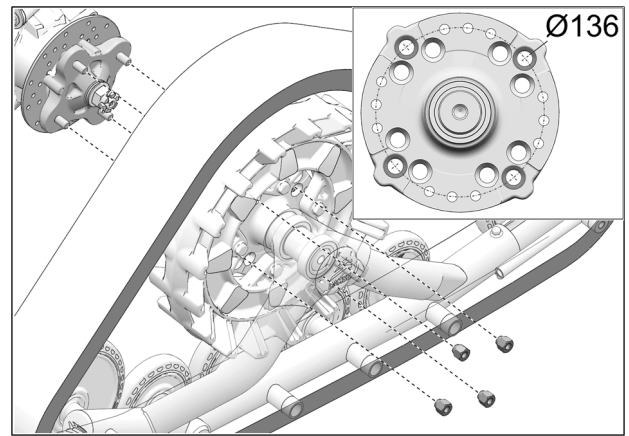

Fig. 18
9. Secure undercarriage to front hub. Use bolt circle **Ø136 mm** and the vehicle's own lug nuts. Fig. 18